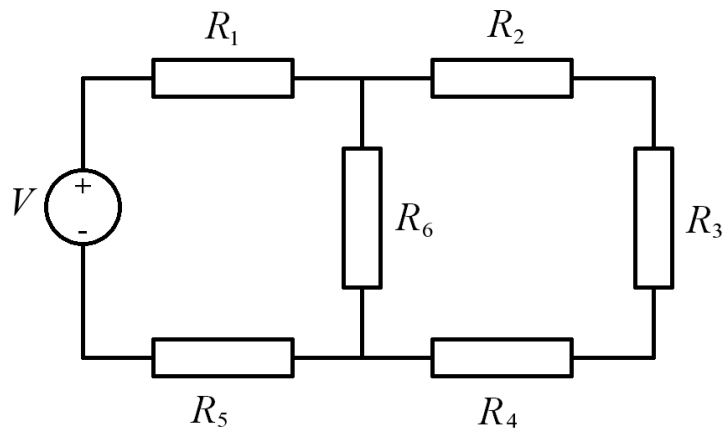

Figure 10: A resistive circuit.
- (f) Analyse the circuit shown in Fig 10 and find (i) the effective resistance of the total circuit and (b) the voltage drops over each resistor.
- (g) Using the measured values of the resistors, calculate the effective resistance when they are wired as in Fig. 10.